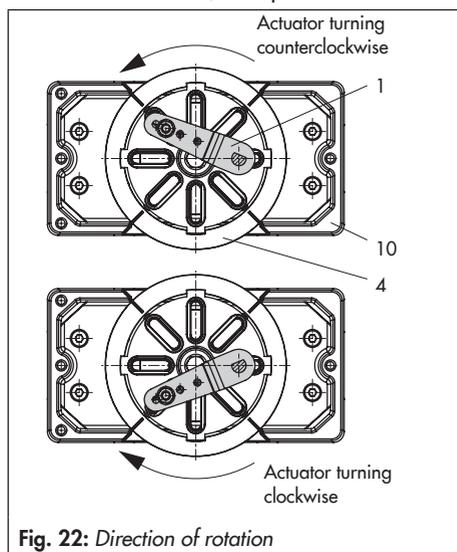

Fig. 22: Direction of rotation
- For **SAMSON Type 3278 and VETEC S160 Rotary Actuators**, fasten the adapter (5) onto the free end of the shaft and for **VETEC R Actuator**, place on the adapter (5.1). For **Type 3278, VETEC S160 and VETEC R Actuators**, place on the adapter (3). For **Type 3278, VETEC S160 and VETEC R Actuators**, place on the adapter (3). For VDI/VDE version, this step depends on the actuator size.
- Fasten coupling wheel (4) on the slotted actuator shaft or adapter (3) using screw (4.1) and disk spring (4.2).
- Unscrew the standard follower pin (2) from the positioner's M lever (1). Attach the follower pin ($\varnothing 5$ mm) included in the mounting kit to pin position 90° .
- Mount connecting plate (6) for required $G \frac{1}{4}$ connecting thread or pressure gauge bracket (7) with pressure gauges on the positioner, making sure the two seals (6.1) are seated properly. Double-acting springless rotary actuators require the use of a reversing amplifier on the connection side of the positioner housing (see section 5.9).
- Place positioner on housing (10) and screw it tight. Taking the actuator's direction of rotation into account, adjust lever (1) so that it engages in the correct slot with its follower pin (Fig. 22).